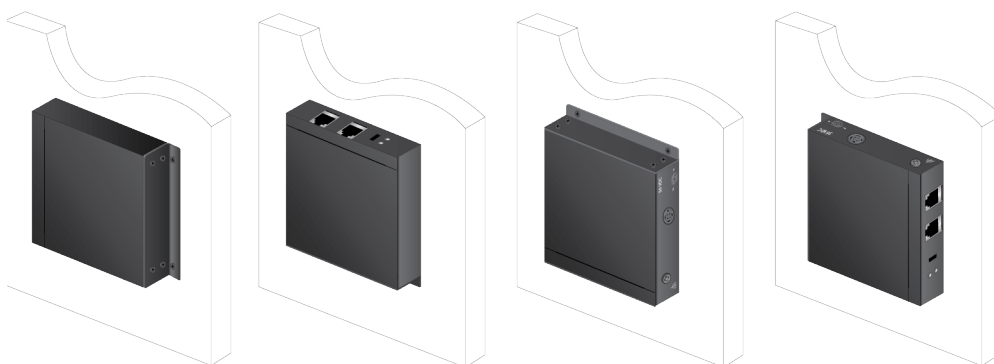

Figure 5. Installation Orientations on a Wall
- ❑ The PoE injector should be installed level on a wall. The front panel can be facing up, down, left or right. Figure 5 shows the PoE injector installed level with the front panel facing to the left.